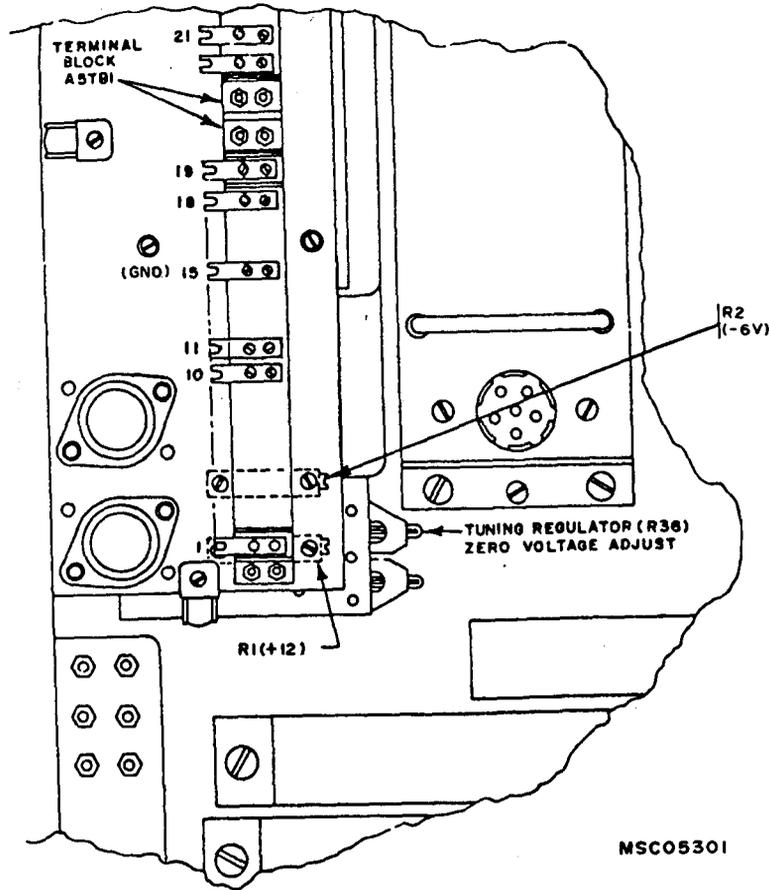

Figure 3. Power supply - adjustment locations.
(2) Remove bottom cover from TI.
(3) Connect digital voltmeter positive lead to A5TB1-10 and negative lead to A5TB1 (GND) -15 (fig. 3). If digital voltmeter does not indicate between +11.95 and +12.05 V dc, perform b(1) below.
(4) Move digital voltmeter positive lead to A5TB1-11 (fig. 3). If digital voltmeter does not indicate between -5.95 and -6.05 V dc, perform b(2) below.
(5) Adjust COARSE TUNING control to low frequency end of band 7.
(6) Connect digital voltmeter negative lead to A5TB1 (GND) -15 (fig. 3) and positive lead to tuning voltage test point (labeled "TV" on tuner cover). If digital voltmeter does not indicate between -0.05 and +0.05 V dc, perform b(3) below.
(7) Adjust COARSE TUNING control to high end of band 7. If digital voltmeter does not indicate between +97.9 and +98.1 V dc, perform b(4) below.
(1) Adjust R1 (+12 V) (fig. 3) for +12.00-V dc indication on digital voltmeter (R).
(2) Adjust R2 (-6 V) (fig. 3) for -6.00-V dc indication on digital voltmeter (R).
(3) Adjust TUNING REGULATOR ZERO VOLTAGE ADJUST R36 (fig. 3) for 0.00-V dc indication on digital voltmeter (R).